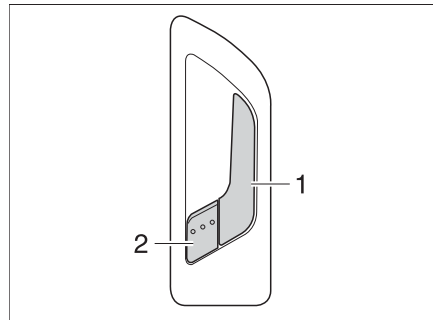

Fig. 41 Door lock of conversion door, inside
- Pull on the handle (Fig. 41,1). The door lock is unlatched. The locking lever (Fig. 41,2) jumps out automatically.
- Press the locking lever (Fig. 41,2).